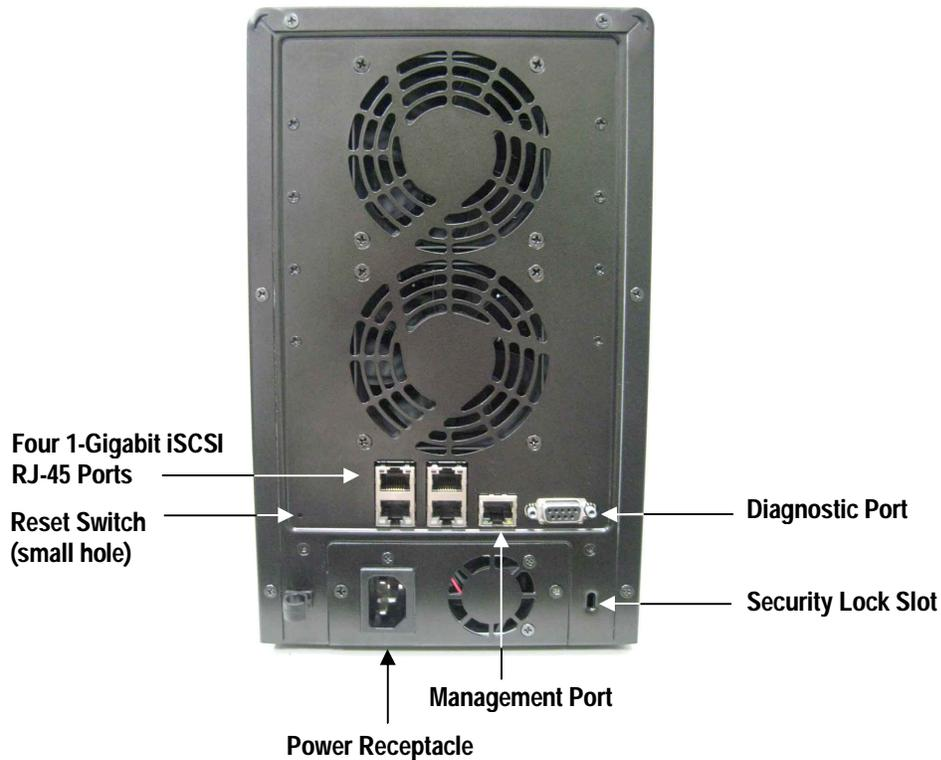
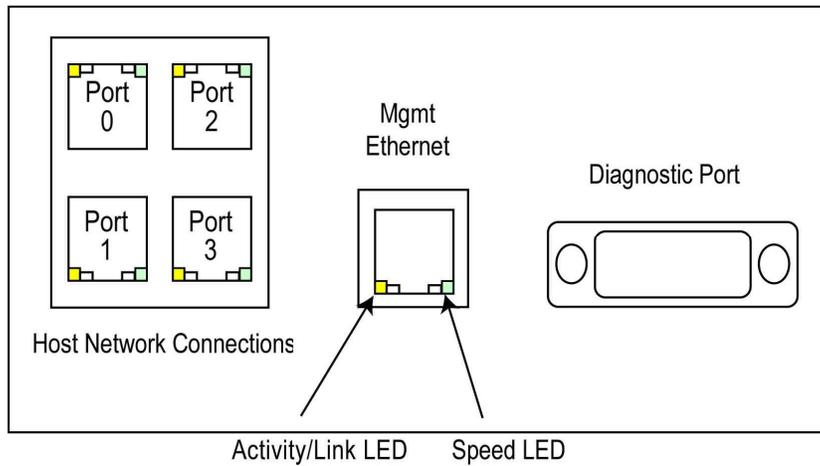

Figure 2-4. Back View of the DSN-1100 Storage System
Figure 2-5. Close-Up View of the DSN-1100 Rear Panel
- Data ports - four 1 GbE RJ-45 iSCSI data ports. Each iSCSI data port has port speed and port activity LEDs (see Figure 2-4, Figure 2-5 and Table 2-5).
- Management port (**Mgmt 10/100**) - one 10/100 RJ-45 management port is located to the right of the four iSCSI data ports. The management port has port speed and port activity LEDs (see Figure 2-4, Figure 2-5, and Table 2-6).
- Reset switch - this is hidden within a small hole. Please use the tip of a pen or a paper clip to reset the system. Note: This reboots the system and does not reset the unit to initial factory settings. (see Figure 2-4 and Table 2-4)